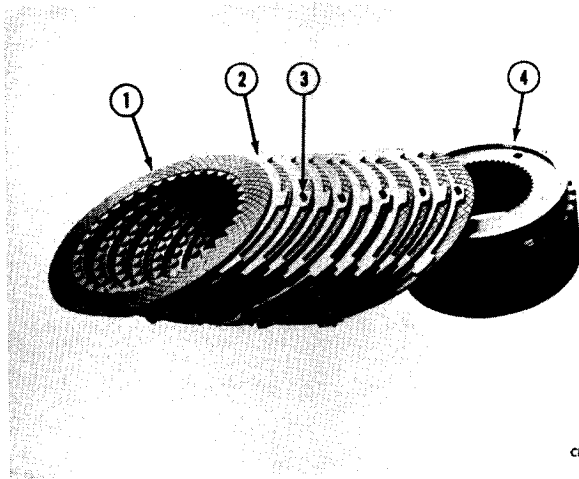

Figure 4-97
Clutch plates, both bronze (1, Fig. 4-97) and steel (2) may be removed from the clutch hub assembly (4).
Inspect the rubber plugs (3, Fig. 4-97) on alternate steel plates (directional clutch packs only). If plugs are damaged or worn, plugs and plate must be replaced as an assembly.